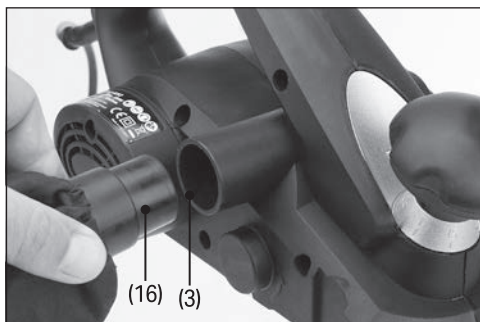

Fig. 1
6.1 Installing the Dust Collector (Fig.1)
- Insert the dust collector bag (16) nozzle into the dust extraction outlet (3) until secure.